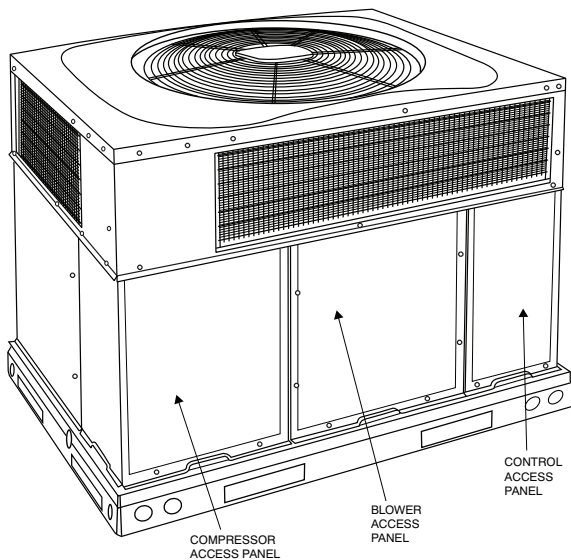

Fig. 23 – Unit Access Panels
- a. Remove blower access panel (see Fig. 23).
- g. Reinstall blower access panel (see Fig. 23).
1. Remove control access panel (See Fig. 23).
Remove blower access panel (see Fig. 23). Limit switch is located on the fan partition.
3. Remove control access panel (See Fig. 23).
Remove access panels (see Fig. 23) to locate all the electrical controls and wiring. Check all electrical connections for tightness. Tighten all screw connections. If any smoky or burned connections are noticed, disassemble the connection, clean all the parts, re-strip the wire end and reassemble the connection properly and securely.